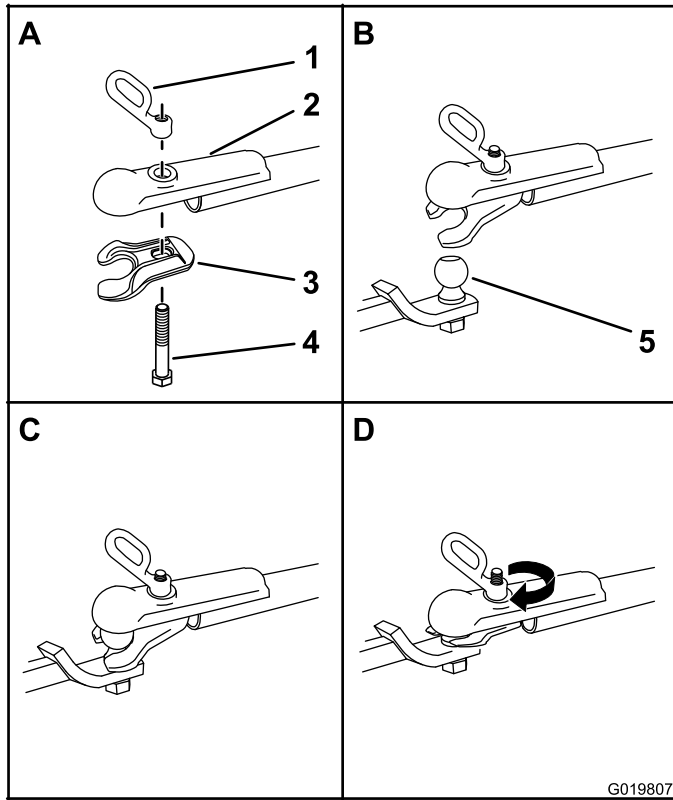

Figure 19
1. Apply removable thread-locking compound to the threads of the coupler bolt to prevent the coupler handle from coming loose (Figure 19).
3. Push the coupler bolt up through the coupler clamp and the coupler top, and connect the coupler handle to the bolt (Figure 19).
5. Turn the coupler handle clockwise to thread it onto the bolt until it is secure (Figure 19).